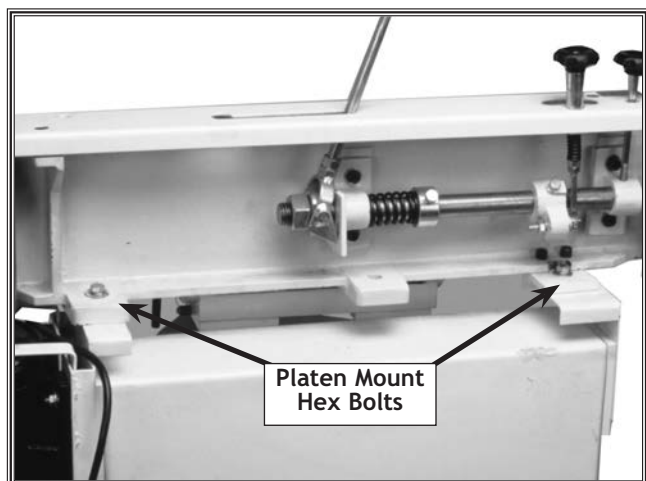

Figure 33. Platen and retaining bolts.
3. With the sander unplugged, loosen the two $\frac{3}{8}$ "-16 X 1" hex bolts. See Figure 33.